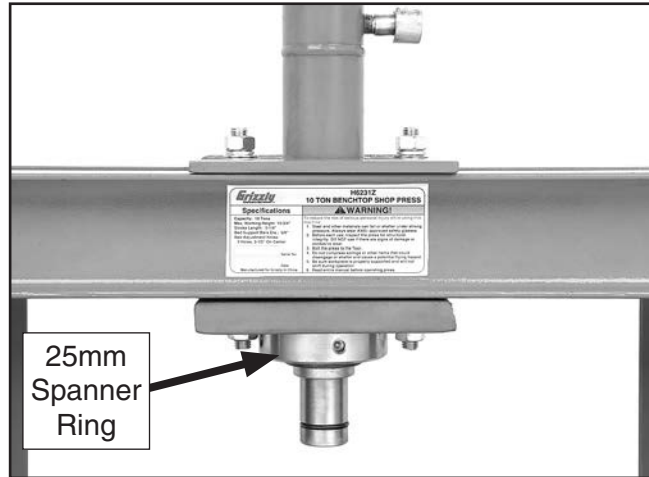

Figure 12. Spanner ring installed.
13. Thread the 25mm spanner ring onto the piston housing as shown in **Figure 12** until it is tight.